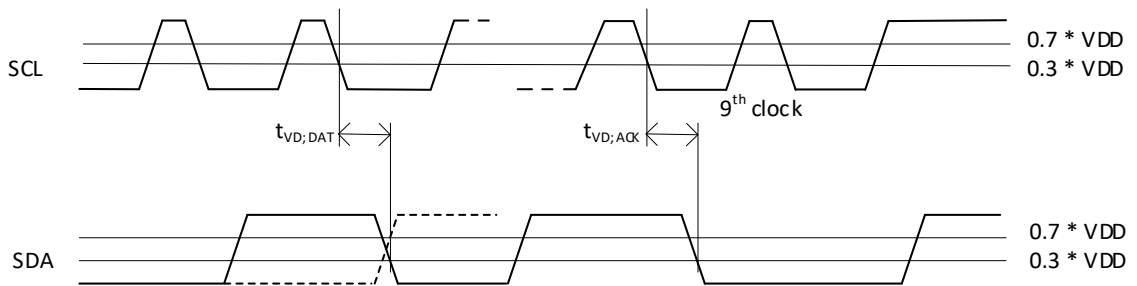

Figure 6-2. Parameter Measurement Waveform: $t_{VD;DAT}$ & $t_{VD;ACK}$
1. $t_{VD;ACK}$ = time for acknowledgement signal from SCL LOW to SDA (out) LOW, see Figure 6-2.
2. $t_{VD;DAT}$ = minimum time for SDA data out to be valid following SCL LOW, see Figure 6-2.